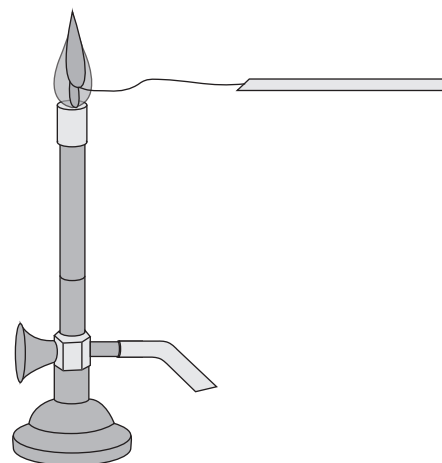

Figure 1
- 4 Clean the flame test wire. This is done by placing it in a roaring Bunsen flame (just above the blue cone, as shown in Figure 1) and then into dilute hydrochloric acid in a watch glass. The wire should then be put back into the Bunsen flame to ensure that it is completely free from contaminating substances.